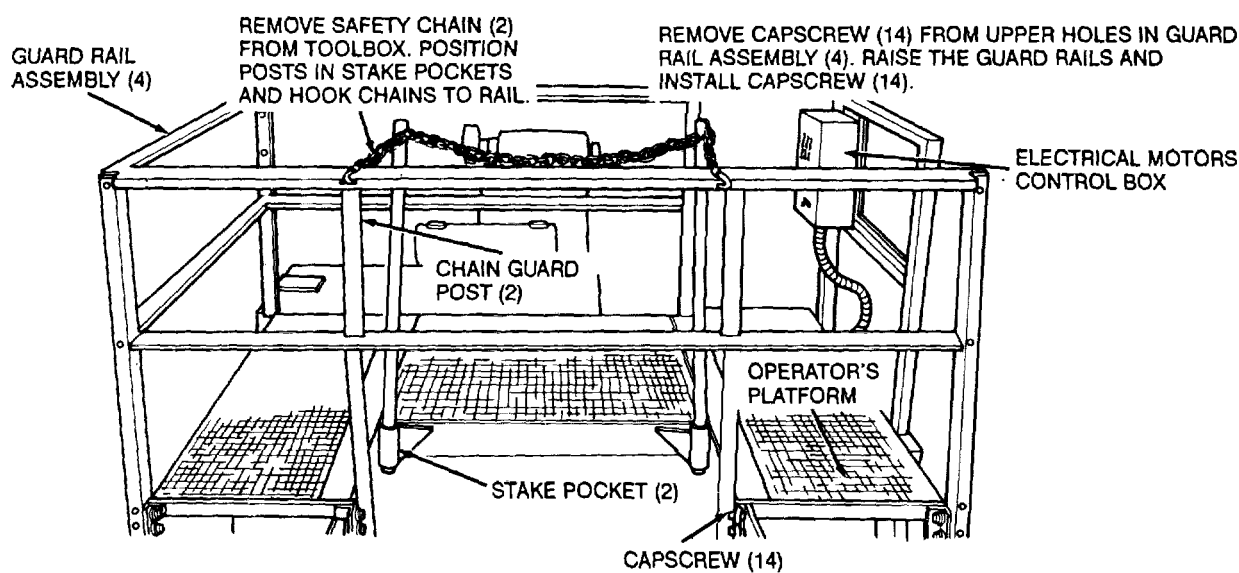

Figure 14. Operator's platform guard rails, installed view.
- i. Raise and secure the operator's platform guard rails (fig. 14).
j. Remove the jaw pit guard and chain from the toolbox (fig. 1) and install on operator's platform (fig. 14).
- d. Remove necessary mounting hardware from the operator's platform guard rails (fig. 14) to permit the guard rails to be lowered to the transport position (fig. 18).